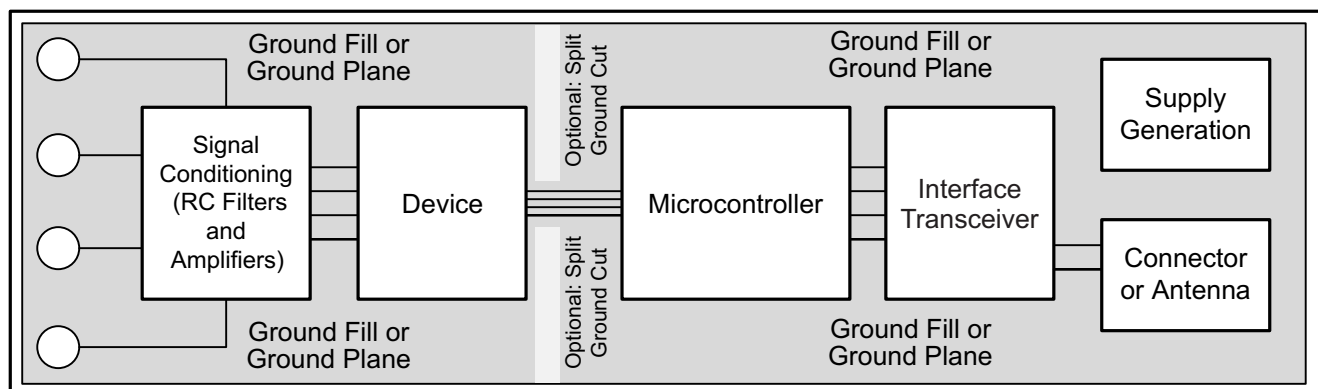

Figure 28. System Component Placement
Use best design practices when laying out a printed-circuit-board (PCB) for both analog and digital components. This recommendation generally means that the layout separates analog components [such as ADCs, amplifiers, references, digital-to-analog converters (DACs), and analog muxes] from digital components [such as microcontrollers, complex programmable logic devices (CPLDs), field-programmable gate arrays (FPGAs), radio frequency (RF) transceivers, universal serial bus (USB) transceivers, and switching regulators]. An example of good component placement is shown in Figure 28. Although Figure 28 provides a good example of component placement, the best placement for each application is unique to the geometries, components, and PCB fabrication capabilities employed. That is, there is no single layout that is perfect for every design and careful consideration must always be used when designing with any analog component.